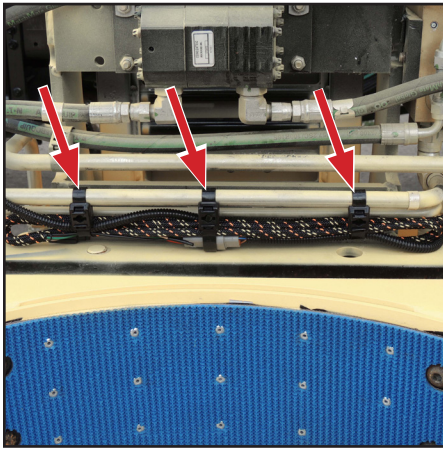

Figure 19
38. Zip tie the electrical harness out of the way, such as to the pipes on the grabber (Figure 19).